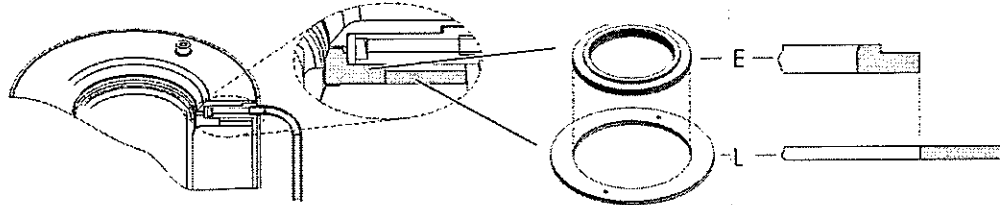

Fig. 6-10 Position of the APS rings
- Mount the rings (E = ceramic ring, L = steel ring) as shown in Fig. 6-10, 72.